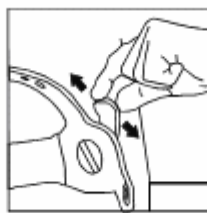

Figure10
2.2 There are positioning holes on the side of weld cap. Adjusting the place of retaining clip on the positioning holes can change the view of point and adjust the angles of view when welder are looking up, looking at the eye level and looking down. (to see figure 10)